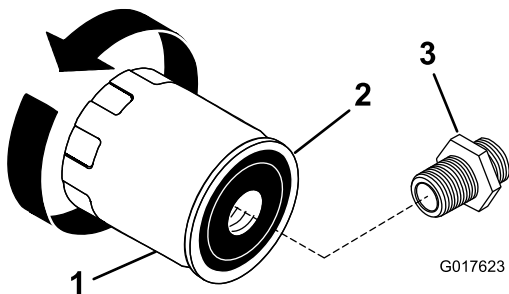

Figure 21
3. Remove the old oil filter and wipe the gasket surface of the filter adapter (Figure 21).
4. Apply a thin coat of new oil to the rubber gasket on the new oil filter (Figure 21).
6. Turn the oil filter clockwise until the rubber gasket contacts the filter adapter, then tighten the oil filter an additional 1/2 to 3/4 turn (Figure 21).